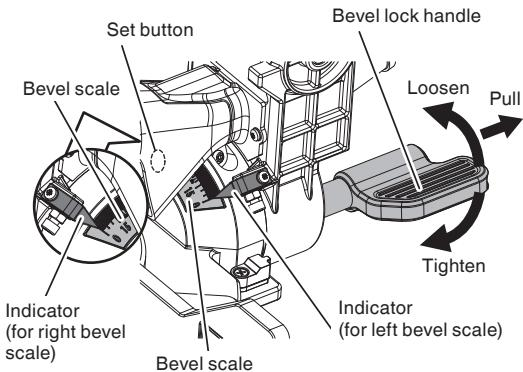

Fig. 22
- (1) Loosen the bevel lock handle and bevel the saw blade to the left or to the right. When tilting the motor head to the right, push the set button.
- (2) Adjust the bevel angle to the desired setting while watching the bevel angle scale and indicator, then secure the bevel lock handle. When contacting the work bench and the main body, pull the bevel lock handle in the direction of the arrow mark as illustrated in Fig. 22, and change the direction of the bevel lock handle.
- (3) Turn the LED light on and position the workpiece on the table for pre-alignment of your cut.
- (4) By using angle block (A) and angle block (B), you can easily set up bevel angles of  $33.9^\circ$ ,  $45^\circ$ , or  $48^\circ$ . For details, see the "Bevel angle  $33.9^\circ$ ,  $45^\circ$ ,  $48^\circ$ " section on page 19.